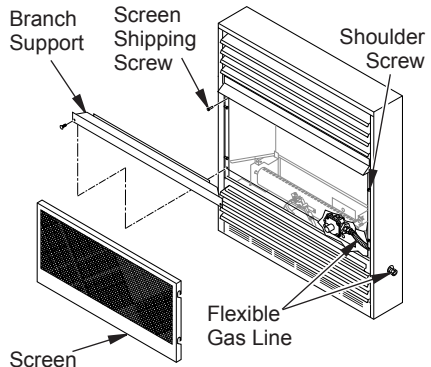

Figure 20 - Removing Log Base Assembly From Fireplace
2. Remove screws that attach branch support to fireplace (see Figure 20). Carefully lift up branch support and remove from fireplace (see Figure 20).